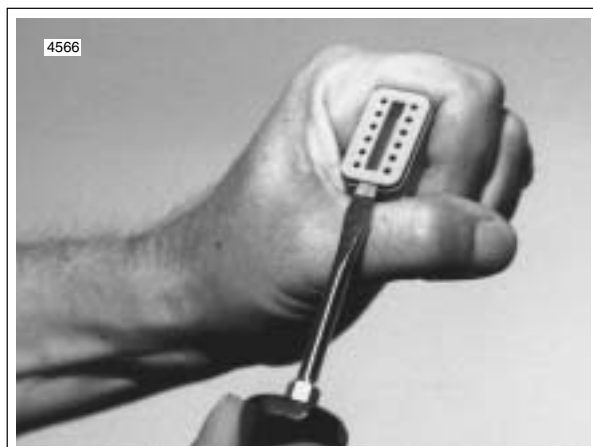

Figure B-1. Remove Secondary Locking Wedge
1. See Figure B-1. Remove the secondary locking wedge. Insert the blade of a small screwdriver between the socket housing and locking wedge inline with the groove (inline with the pin holes if the groove is absent). Turn the screwdriver 90 degrees to pop the wedge up.